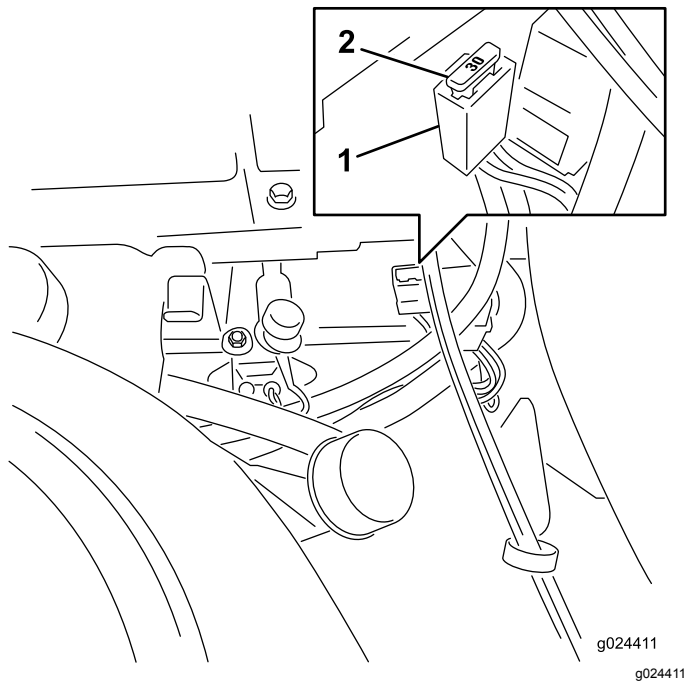

Figure 47
Note: The fuses are located on right hand console next to the seat (Figure 47).
1. To replace the main fuse, grasp the fuse and pull it straight and away from the fuse block (Figure 47).
4. Align a new fuse with the slot in the fuse block (Figure 47).
5. Push the fuse into the fuse block until the fuse is seated (Figure 47).